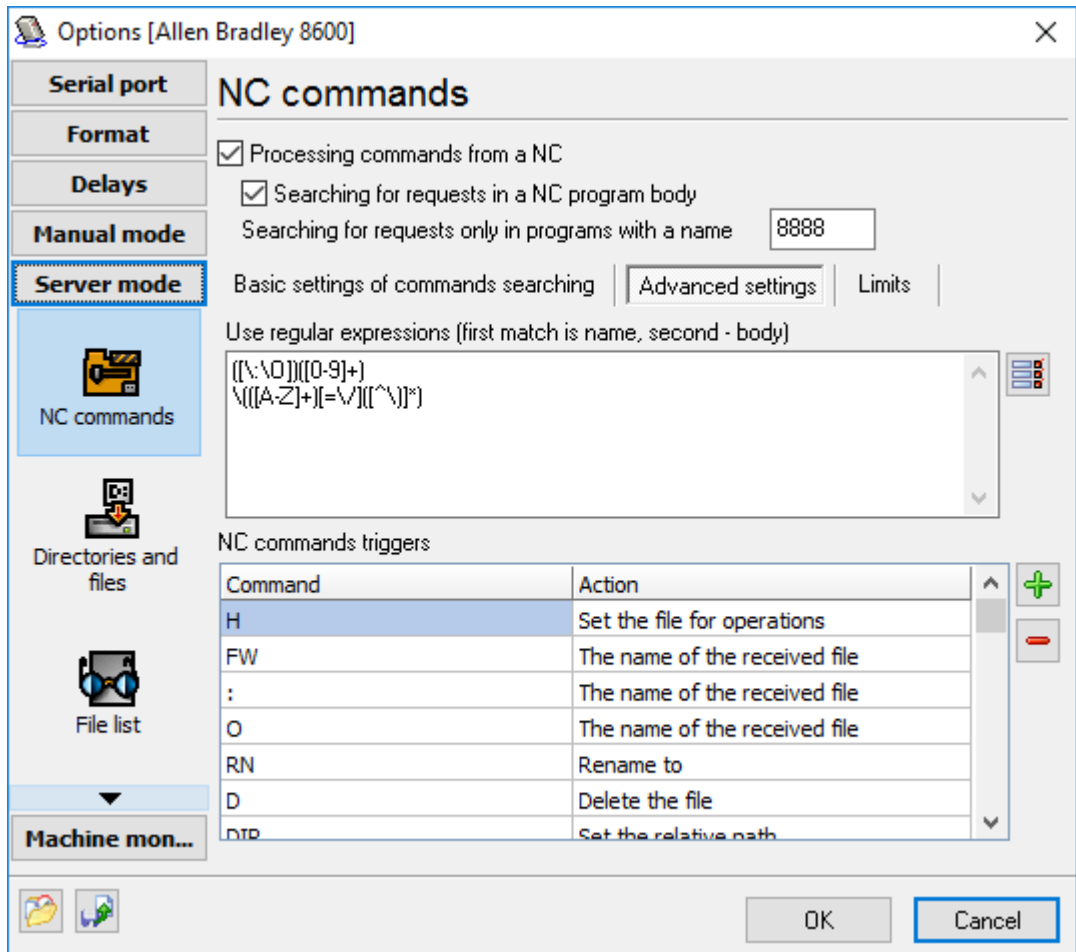

Fig. 10. NC command format.
The commands are extracted from the header according to the parameters specified in the "Server mode/NC commands format" tab (fig. 10)
1. All commands sent to DNCP must be transmitted in the NC program that has the name specified in the "**Search for requests only in programs with a name**" field (fig. 10).
- **The name of the received file** - this command tells the DNC server that the command body is the name of the program that is being sent to the DNC server at the moment. Depending on this name, the server searches for commands in the program body because the name of the program to search for commands in is specified in the options (fig. 10). In case of non-service programs, this filename is used for saving the program file to the disk.